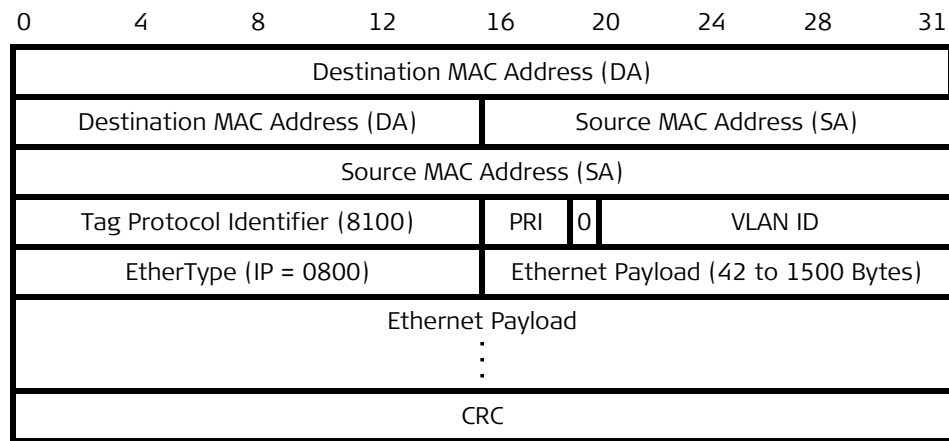

Figure B-7. Structure of Ethernet Frame with VLAN Support
The structure of an Ethernet frame with VLAN support is shown in Figure B-7 (for simplicity, the figure does not include the preamble and SFD fields).
- One bit for the canonical format indicator (always 0 as shown in Figure B-7).
When the TDMoIP traffic is carried over Ethernet, the basic TDMoIP packet shown in *Figure B-10* is encapsulated in the frame shown in *Figure B-6* (without using VLANs) or *Figure B-7* (when using VLANs).